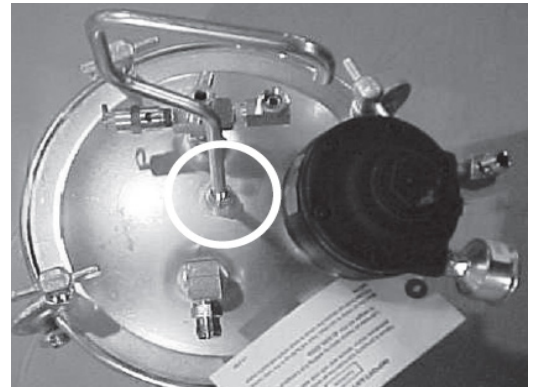

Figure 2
1. Assemble the handle into the tank and secure with a 9/16 wrench as shown in Figure 2.